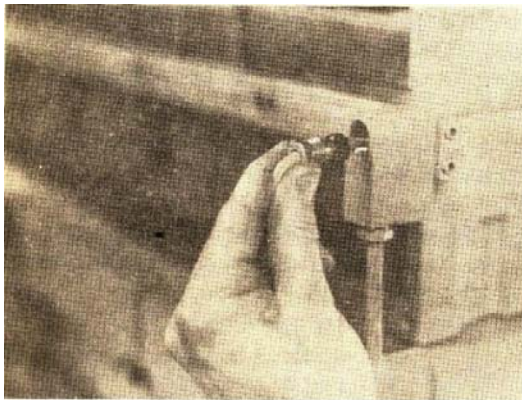

Fig. 14-85, Install the fuel tubing
9. Put the fuel supply tube from the solenoid on the fuel pump to the upper opening and fuel return tube assembly from the gear pump to the lower opening in the fuel connection starting tube nuts by hand. Secure with lips and tube nuts as illustrated in Fig. 14-85.